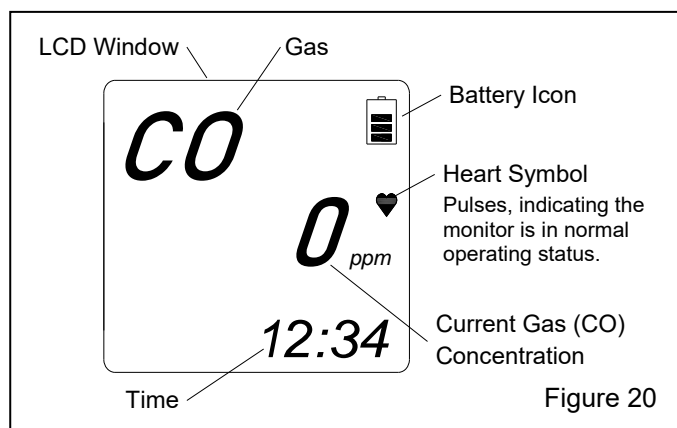

Figure 20
**5.2.1.3** When the fresh-air baseline has been set, the LCD displays “Adj,” and a prompt to *RELEASE* the AIR button. The monitor beeps once and the screen displays 0 ppm, as shown in Figure 20.
**5.2.2.6** When the fresh-air baseline has been set, the LCD displays “Adj,” and a prompt to *RELEASE* the AIR button. The monitor beeps once and the screen displays 0 ppm, as shown in Figure 20.